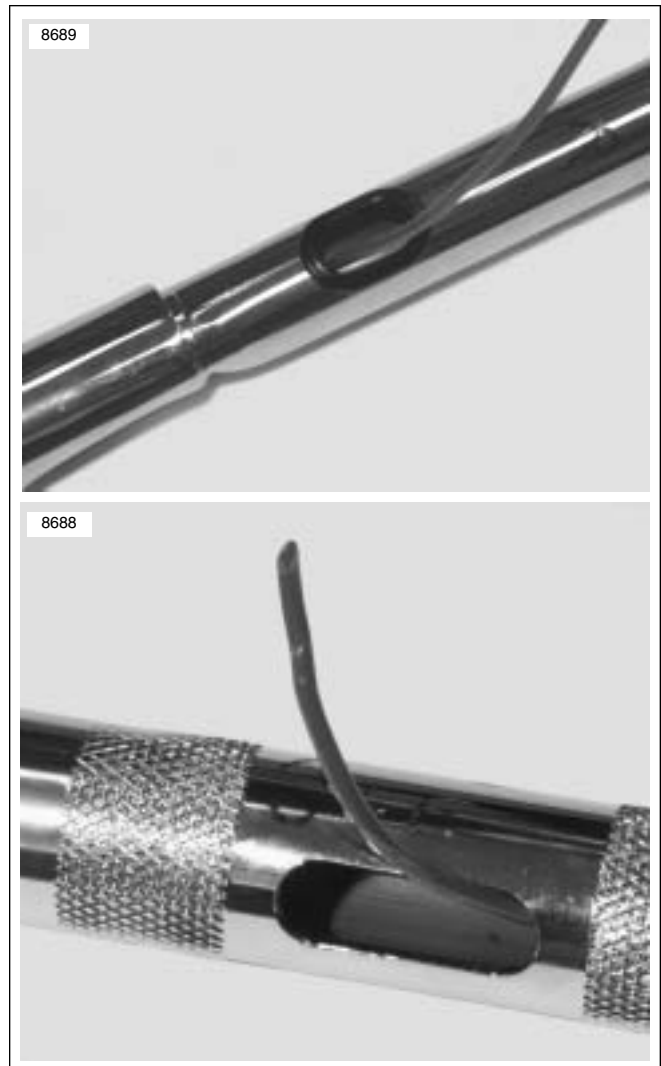

Figure 2-16. Wire Leader in Handlebar
9. See Figure 2-16. Lightly lubricate conduits and tape with glass cleaner. Then pull left and right side switch control and heated handgrip wiring and conduits from handgrip ends through handlebar and handlebar grommets.
5. See upper panel of Figure 2-16. Make sure grommets are installed in oval holes near each end of handlebar.